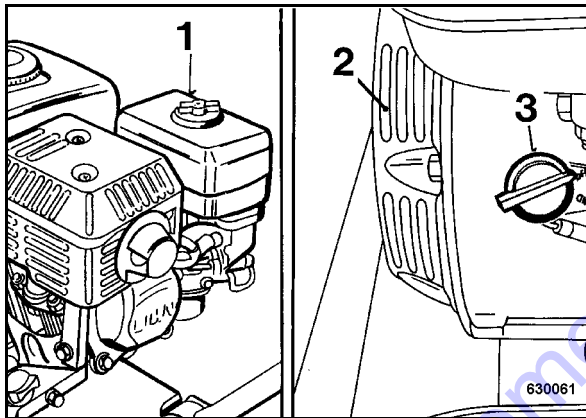

Fig. 40
Do not guide the water jet directly into air filter/ carburettor (1) (Fig. 40), starter/air intake (2) and the ignition switch (3).